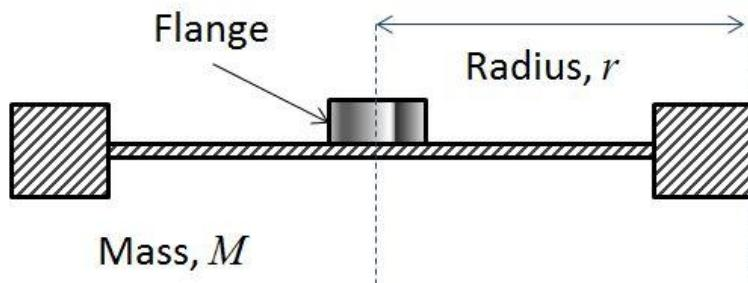

Figure 6 A ring flywheel
- A flywheel that has a thin plate in the middle and most of its mass as a ring around the outside (Figure 6):